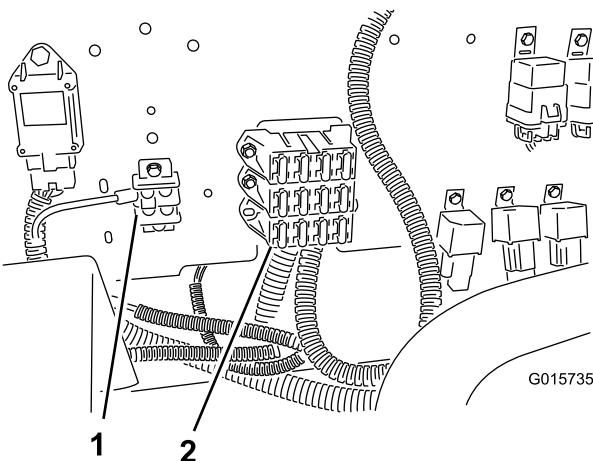

Figure 20
- Locate the existing fuse blocks on the machine, and install the fuse block connected to the wiring harness by securing it to the bottom of the fuse block above it (Figure 20).
- Secure the ground terminal on the wiring harness to the ground terminal block (Figure 20).